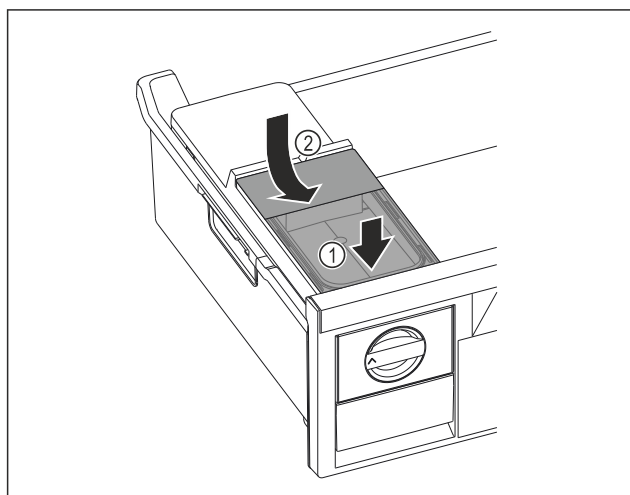

Fig. 63
- Position the water tank at the front. Fig. 63 (1)
- Lower the water tank at the rear. Fig. 63 (2)